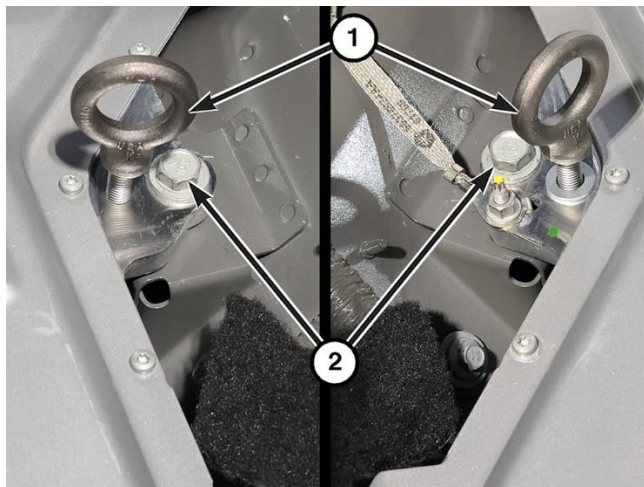

**Figure 39 – Eyebolt Installation**
42. Thread the other two Eyebolt, 10mm 2035203080 (1) into the threaded holes next to the HV battery pack mounting bolt holes (2) on the rear side of the HV battery pack (Figure 39).